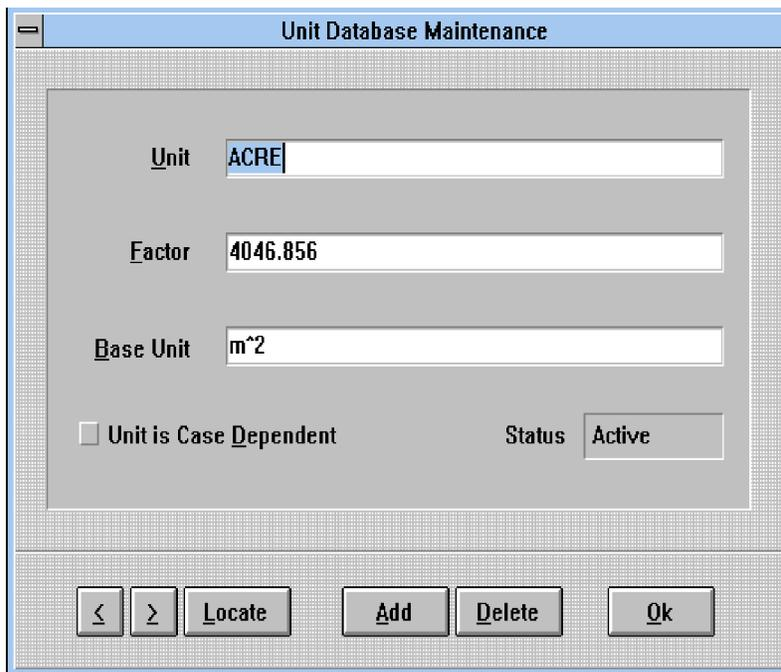

Figure 4-9. Unit Database Maintenance dialog box for updating conversion units.
2. In the Unit Conversions screen, press [Update]. A Unit Database Maintenance dialog box will come up (Figure 4-9).